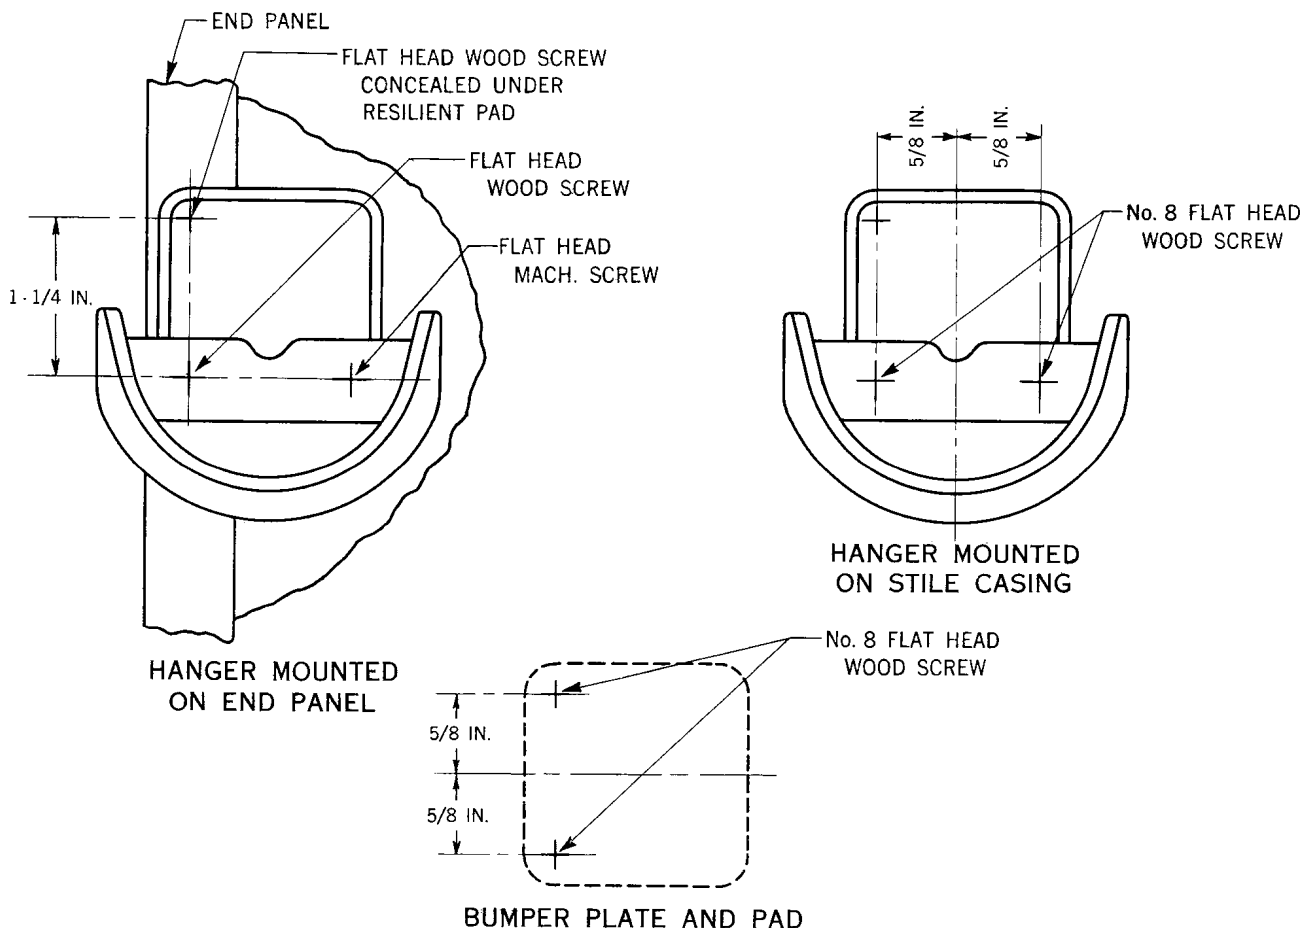

Fig. 3 - Drilling Information for 9A Handset Hanger
4.01 Measure and drill the end panels of the switchboard provided and mount the hanger and bumper plates as shown in Fig. 2 and Fig. 3.